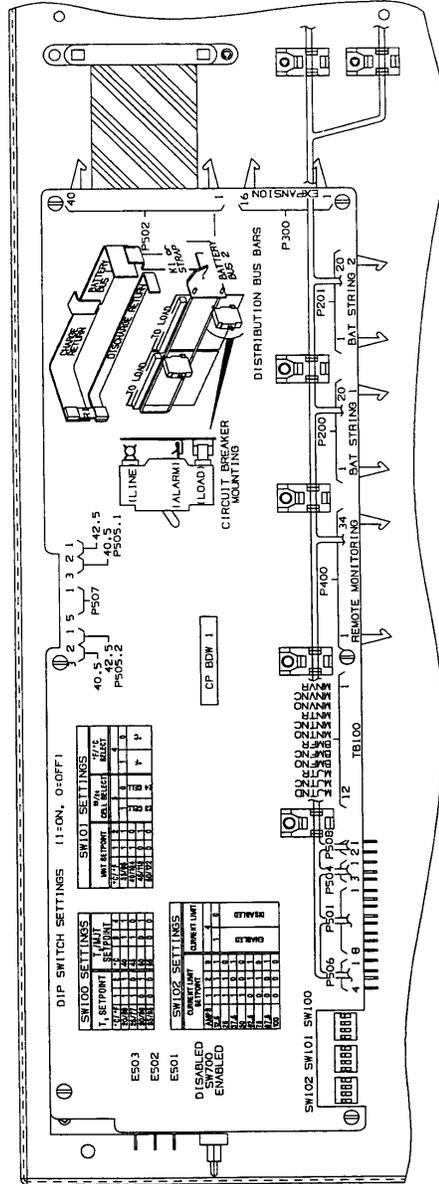

Figure 3-17: BDW1 Circuit Pack Cover
7. Once the system is functioning properly and all cable sets have been routed and connected, tie down cables at board as shown in Figure 3-17.